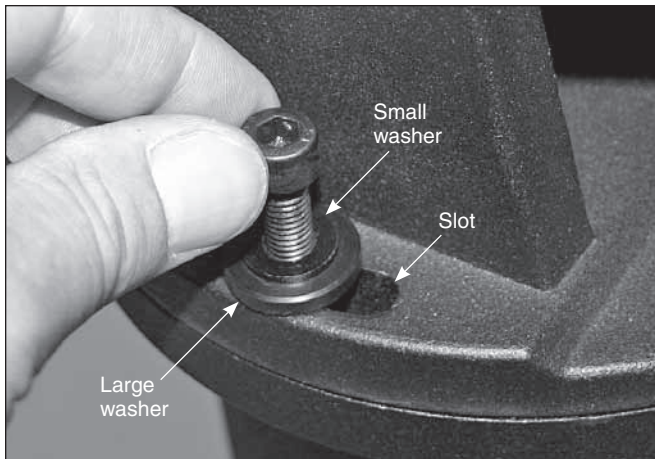
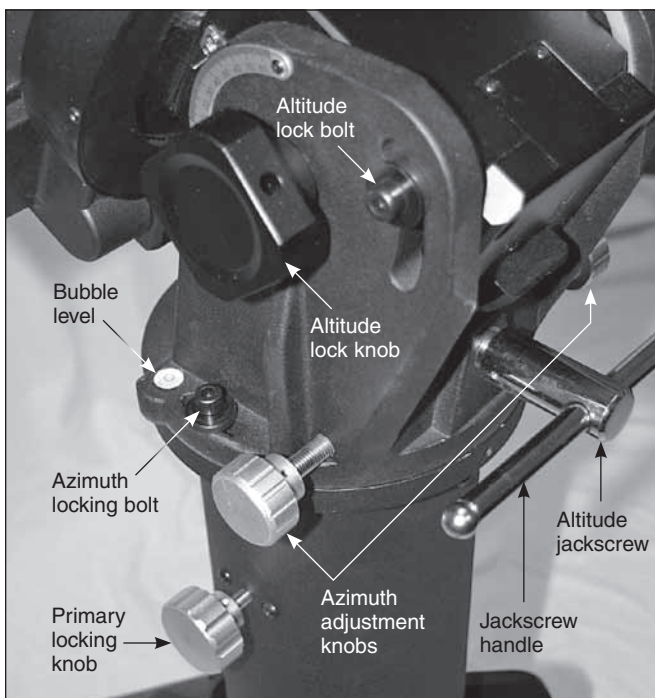

Figure 11. Install the two azimuth locking bolts.
Figure 12. Install the azimuth adjustment knobs and thread them in all the way.
5. Install the two azimuth locking bolts with washers; do not tighten them completely yet (**Figure 11**).
6. Install the two azimuth adjustment knobs if they are not already installed. Thread them in as far as they will go. Refer to **Figure 12**.
The HDX110 mount has a built-in bubble level, shown in **Figure 12**, making it easy to level the mount using the three leveling pads that you placed under the tripod legs. It will be easier to do this now, before attaching the counterweights and telescope.
2. Referring to **Figure 12**, slightly loosen the primary locking knob and the two azimuth locking bolts, then use the azimuth adjustment knobs to rotate the mount until the azimuth locking screws are centered in the slots (**Figure 11**). Lightly tighten the azimuth locking screws.